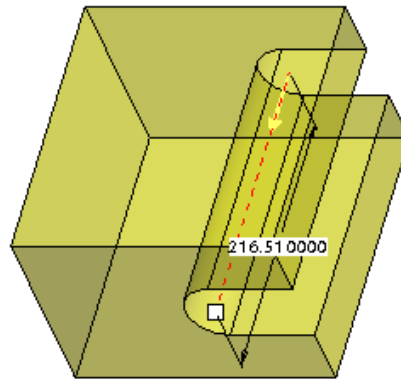

Figure 3-48 Arrow showing the direction of feature creation
- Exit the sketcher environment and define the model attributes, refer to Figures 3-48 and 3-49.
The model appears, as shown in Figure 3-48. All attributes that are selected by default in the **Extrude** dashboard will be used to create the model. You need to change only the depth of extrusion.